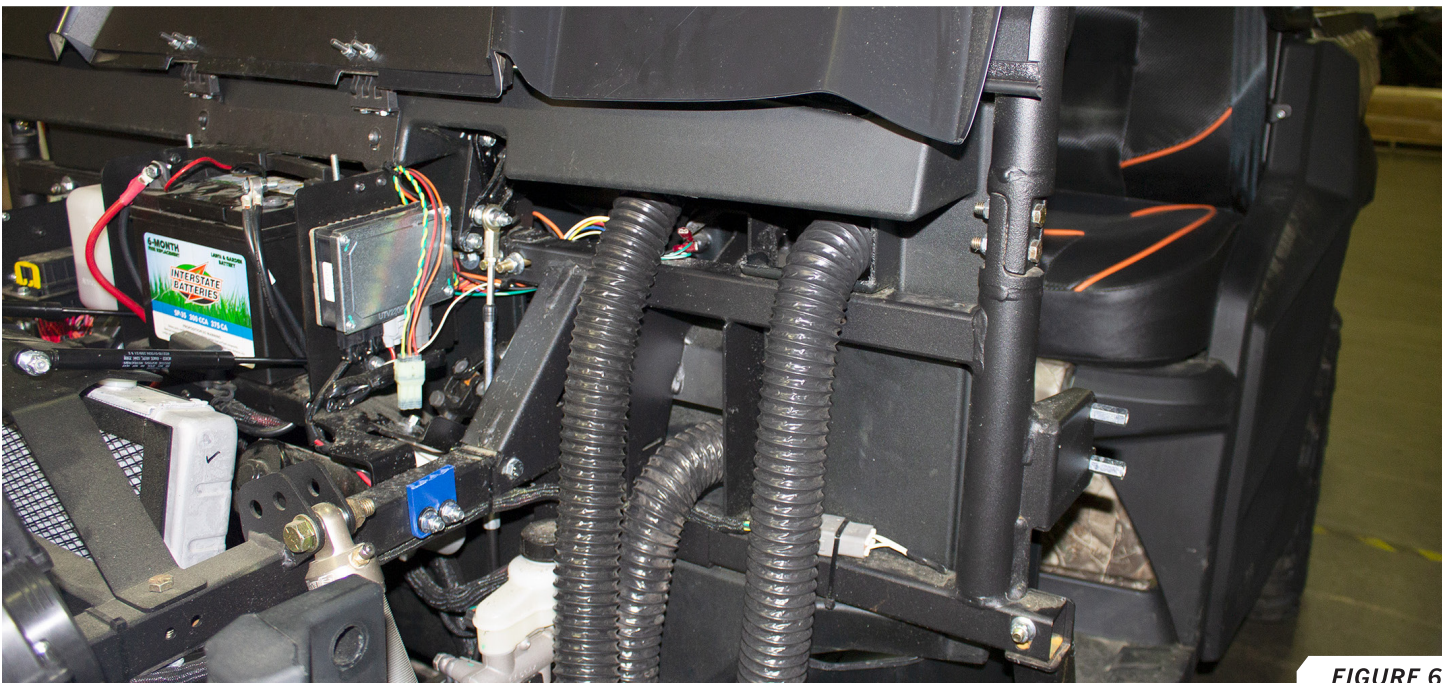

FIGURE 6
16. Route the hose and vent from the upper dash in the cab, through the dash and firewall area, and pull through the driver side firewall access location created in step 5. **FIGURE 6**
17. Route the hose and vent from the driver side lower dash in the cab, through the dash and firewall area, and pull through the driver side firewall drill location created in step 6. **FIGURE 6**